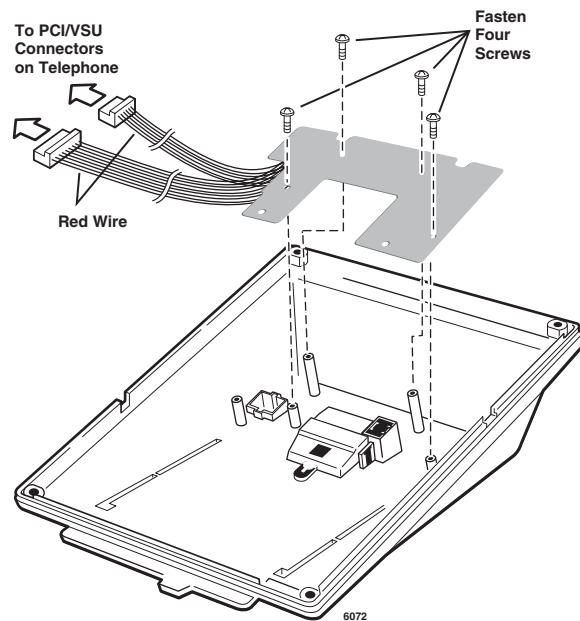

Figure 11-31 BVSU/DVSU Installation
- Position the BVSU/DVSU PCB on the standoffs, and secure with the four provided screws (see Figure 11-31).